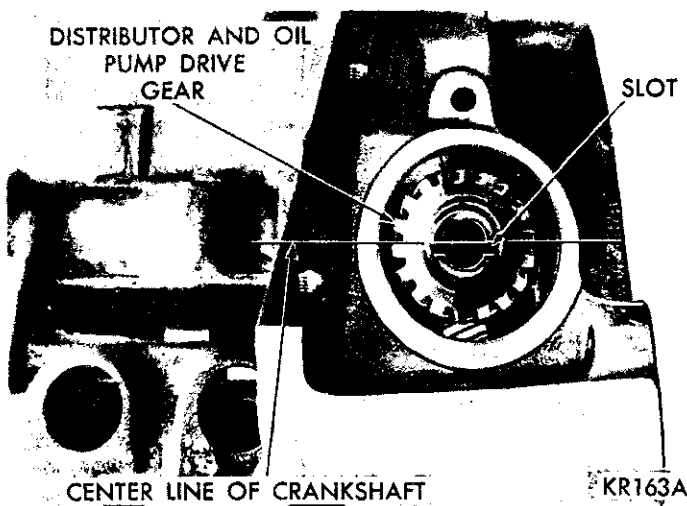

Fig. 29—Distributor Drive Gear Installed
(1) Rotate crankshaft until No. 1 cylinder is at top dead center on the firing stroke.
(2) When in this position, the straight line on the vibration damper should be under "O" on timing indicator.
(3) Coat shaft and drive gear with engine oil. Install the shaft so that after gear spirals into place, it will index with the oil pump shaft, so slot in top of drive gear will be parallel with center line of crankshaft (Fig. 29).